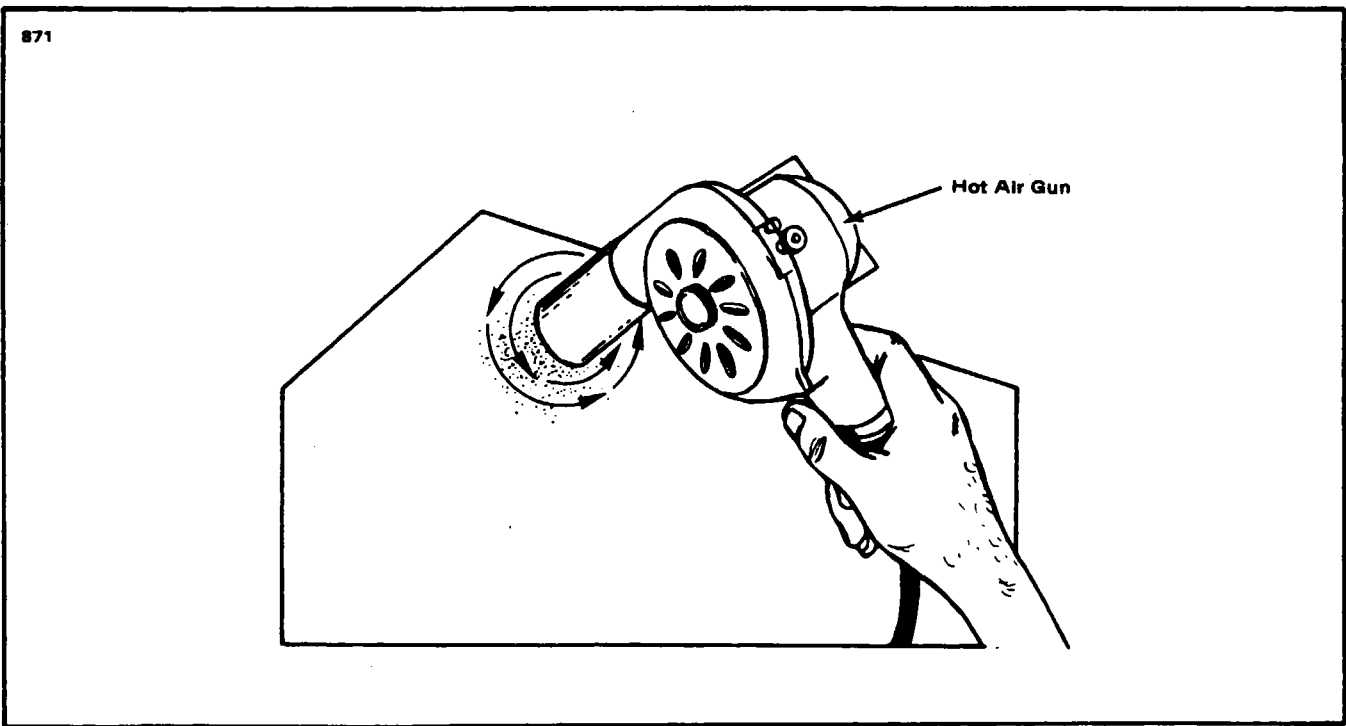

Figure 4-10. Surface Scratches, Abrasions or Ground-in-Dirt.
b. Surface Scratches, Abrasion or Ground-in-Dirt: (Refer to Figure 4-10.)